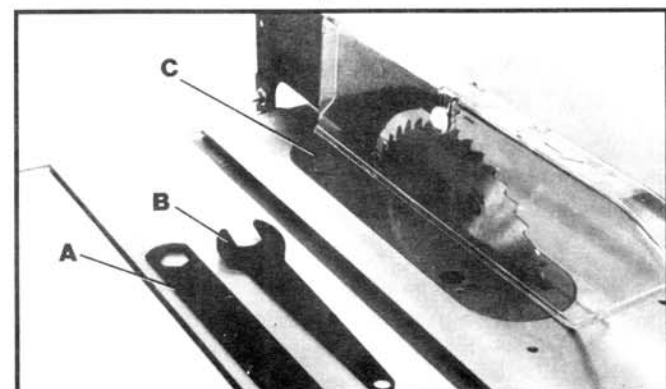

Fig. 53
2. **NOTE:** Two 7/8" wrenches are supplied with the saw for changing the saw blade; a box end wrench (A) Fig. 53, and open end wrench (B).
3. Remove table insert (C) Fig. 53, and raise saw blade to its maximum height.